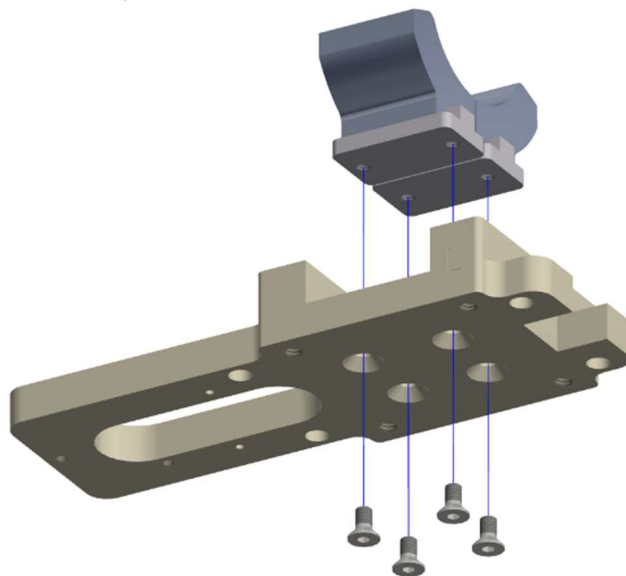

Figure 10-26. Remove the Inversion and Eversion Stop Assembly (474-5813-A and 474-5816-A)
10.2.22 Remove the Inversion and Eversion Stop Assembly (474-5813-A and 474-5816-A) by removing four M3 X 0.5 X 6 LG. FHCS from the bottom of the Lower Ankle Plate (Figure 10-26).